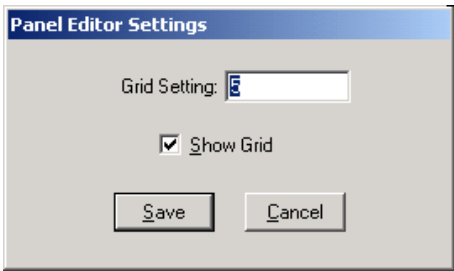

Figure 5-28 Panel Editor Settings Dialog Box
- 1. Select **Options** from the toolbar. The Panel Editor Settings dialog box shown in Figure 5-28 displays: